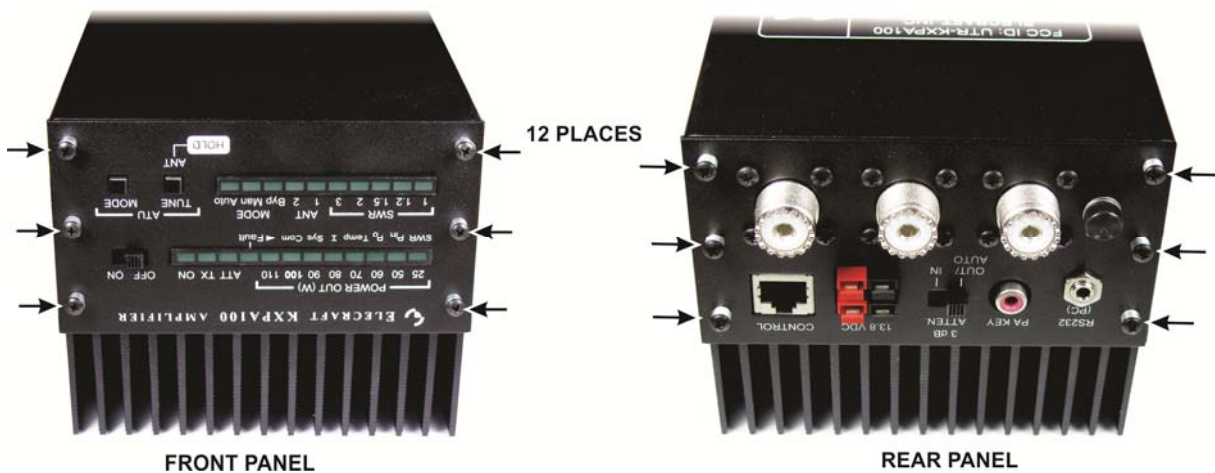
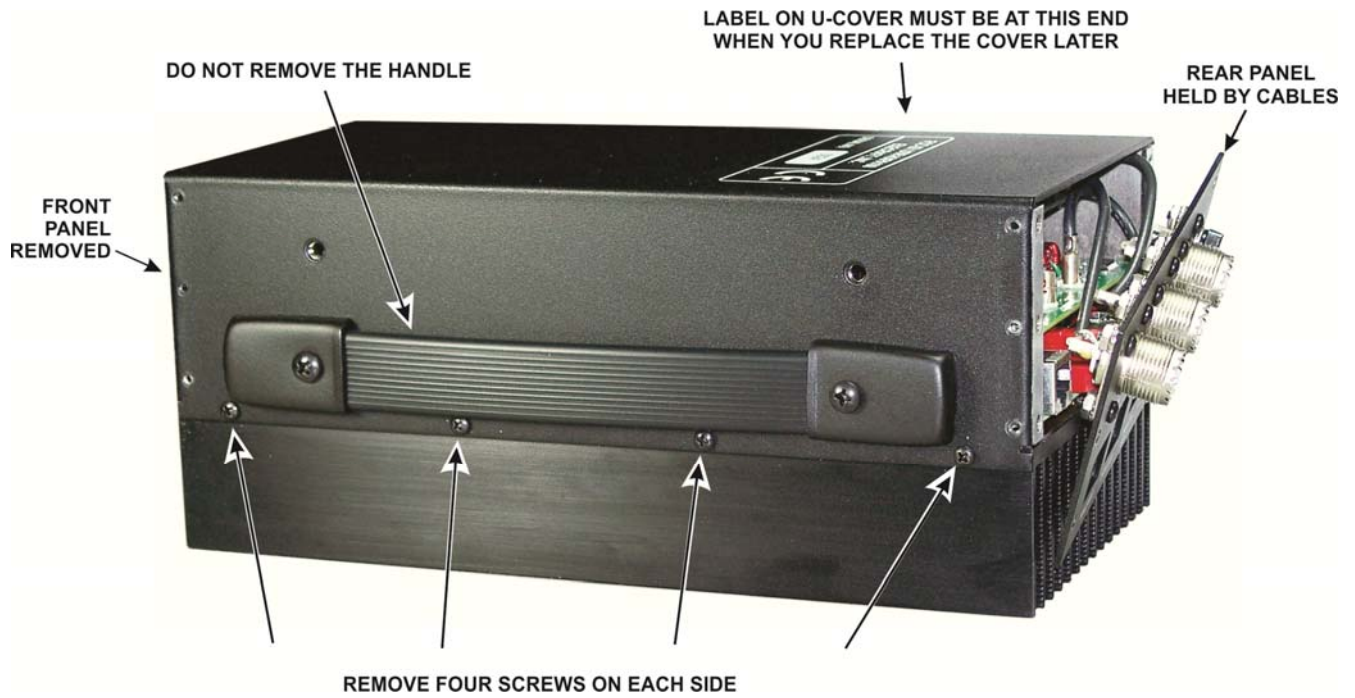

Figure 18. Freeing the Front and Rear Panels.
Figure 19. Removing the Bottom Cover
Remove the six screws, lock washers and spacers to free from the front and rear panels as shown in Figure 18. That will free the front panel. Set it aside in a safe place. The rear panel will be held in place by the wires and cables to the connectors as shown in Figure 19. Do not try to remove it. Let it hang by the wires.
☐ Remove the four screws from each side of the bottom U-cover as shown in Figure 19 and lift it straight up off of the KXPA100.
When replacing the bottom U-cover in the next step, be sure it is oriented with the lettering toward the rear panel as shown in Figure 19. Reversing the orientation will cause the threaded bushings for the handle to strike the circuit boards.
- After the ALC adjustment is completed, replace the bottom U-cover so the end with the label nearest the rear panel (the correct orientation is shown in Figure 19).
- Secure the bottom cover with eight screws, four on each side as shown in Figure 19. Do not use lock washers under these screws.